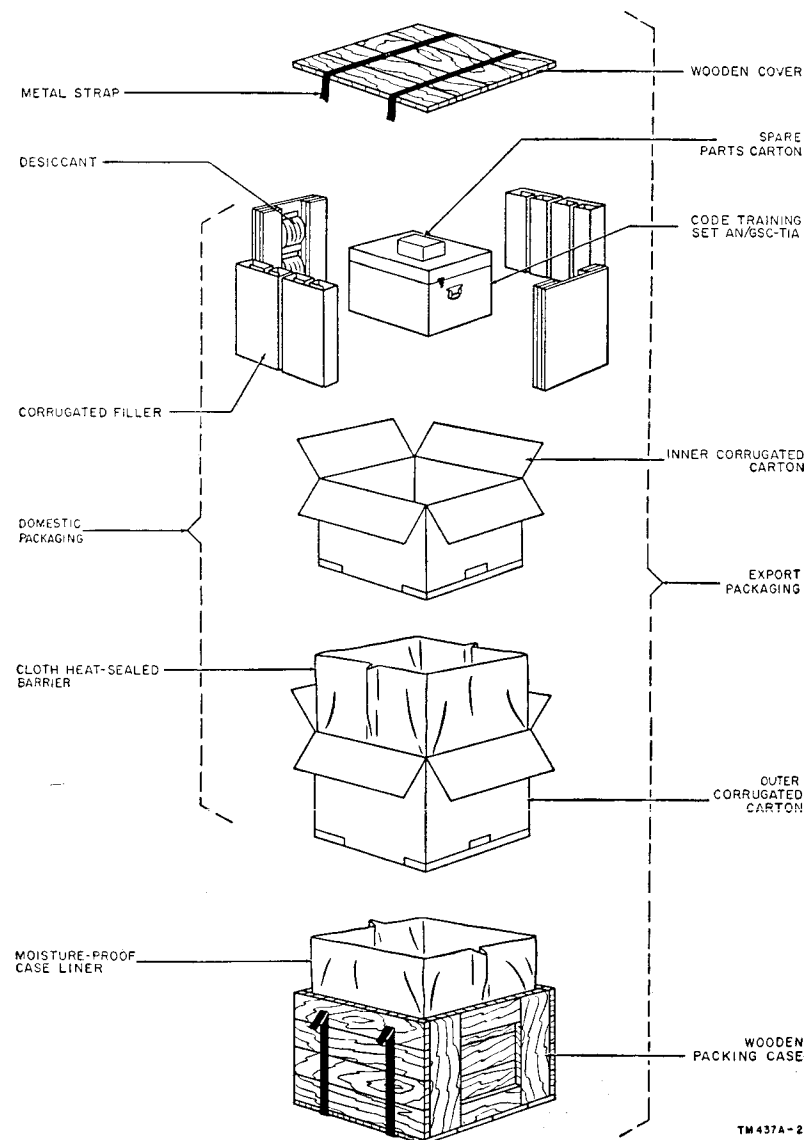

Figure 2. Code Training Set AN/GSC-T1A, packaging diagram.
(fig. 2)
*b. Export.* When packaged for export shipment, the code training set, described above for domestic shipment, is placed in a wooden packing case containing a waterproof case liner, which is heat sealed. The case is then nailed shut and bound with metal straps (fig. 2). The size, weight, and volume for domestic and export shipment are shown in the table below.
- Remove the nails from the top of the wooden shipping container (fig. 2) with a nail puller.